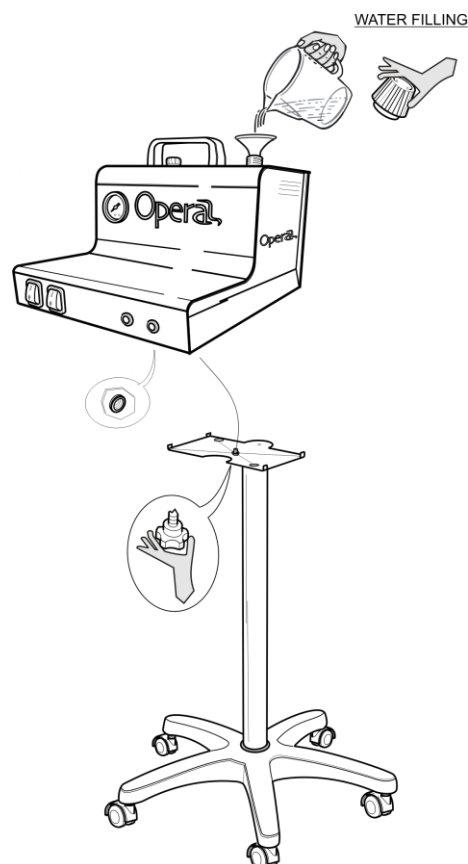

Fig. 2
5. For OPERA supplied with trolley: screw the trolley knob on the proper connection under the base of OPERA (fig. 2).
1. Unscrew the safety valve plug (fig. 1), fill the boiler with water to the desired level (fig. 2) paying attention not to overfill it. It is advisable to use a funnel. Take the plug by the plastic part and screw it again: do not tighten too much or its gasket might get spoilt (see section 7).
Then fill the boiler up to desired level (fig. 2) pay attention not to overfill it (see section 4 point 1). Screw the valve plug again, connect the plug and wait for the boiler lamp to switch off (fig. 1-7). Now the iron is ready again.